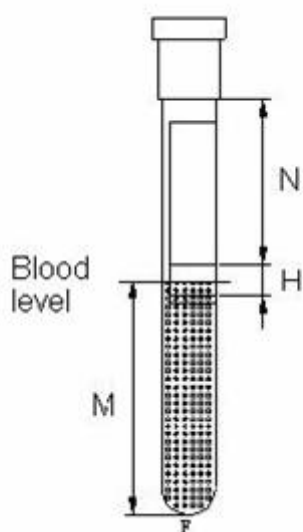

Figure 4-1
Every ESR tube has a label. The label should be attached on the tube flatly, otherwise the tube may be not able to insert into the hole or can not reach the bottom and cause wrong measuring result. The correct label position on the ESR tube is shown as figure 4-1. There are two indicating lines on the label. The distance between the two lines is 9mm, the position is shown as H in figure 4-1. The recommended position of the blood height (M) is 55mm (corresponding to 1.6ml, i.e. 0.32ml anticoagulant and 1.28ml whole blood). The blood level should reach between two indicator lines, thus the analyzer can detect the blood level correctly.
Note: the injected blood and coagulant should not exceed the range of H. In figure 4-1, the maximum value of M is 64mm and the minimum is 50mm. This is the effective blood height.